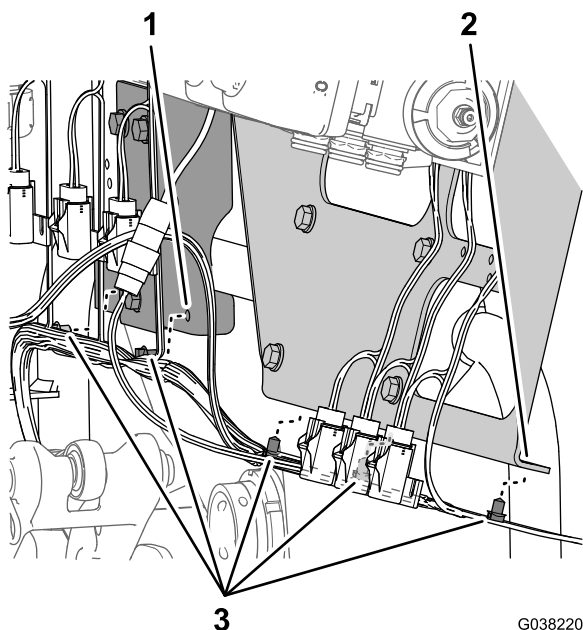

Figure 50
4. Secure the wire harness of the machine to the bracket for the agitation, rate, and master-spray valves and the bracket for the section valves with the 5 push-in fasteners (Figure 50).